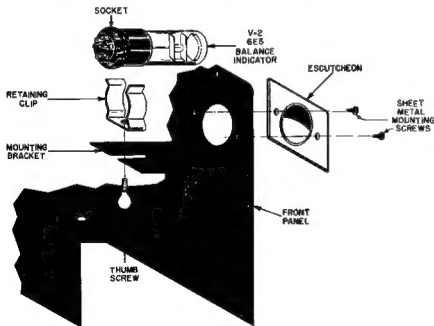

FIGURE 6. MOUNTING THE 6E5 IV-2
- (X) Figure 6 shows how to mount the 6E5 (V-2). Place the socket on the 6E5 and mount it behind the large hole in the front panel. Do